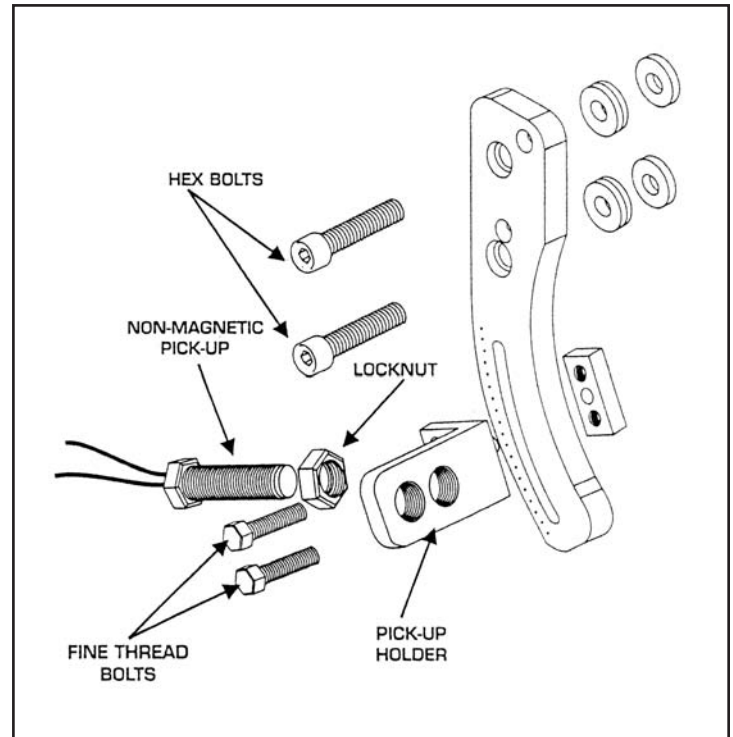

FIGURE 1 PICKUP BRACKET ASSEMBLY
1. Mount the pickup holder onto the bracket using the two fine thread bolts (*Figure 1*). The pickup base will only install one way, do not try to force the bolts in, and hand tighten the bolts.